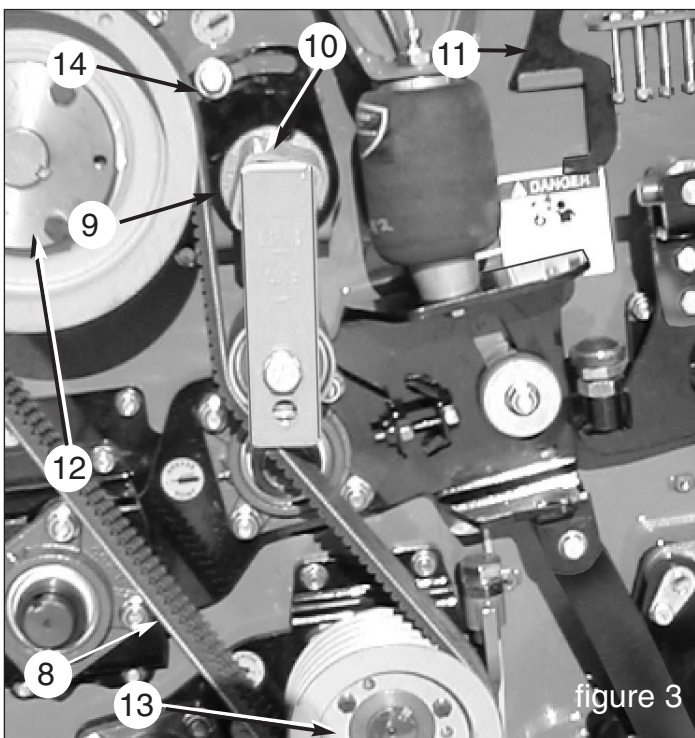

figure 3
See figure 3 - page 15
1. Ensure that your Macerator is blocked securely. Loosen the bolts, holding the wrapper(s) on pickup. (fig. 3) Slide wrapper forward, and remove the wrapper from the bolts.